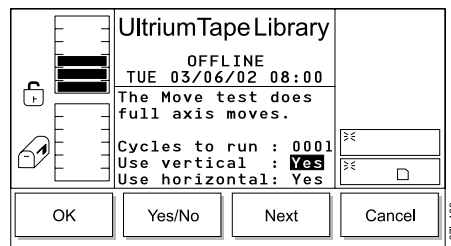

Figure 302. Use Axes Dialog
- To specify whether to test the vertical or horizontal axis, press the button below the **Next** softkey until the selection cursor highlights the value in the Use vertical or Use horizontal field. The Use Axis Dialog displays (see Figure 302). Press the button below the **Yes/No** softkey until the value that you want displays.